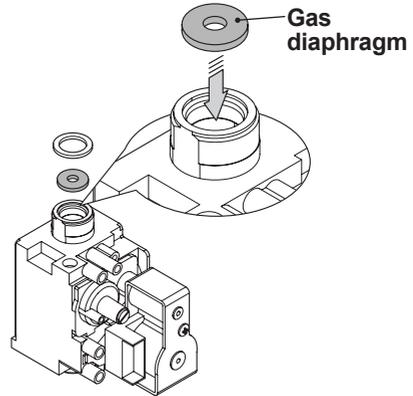

Figure 8.2
- Convert the type of gas by correctly replacing the gas diaphragm (Figure 8.2), referring to section "Technical data M275V.2024 SM" on page 22, "Technical data M275V.2428 SM" page 25 and "Technical data M275V.2832 SM" page 28.